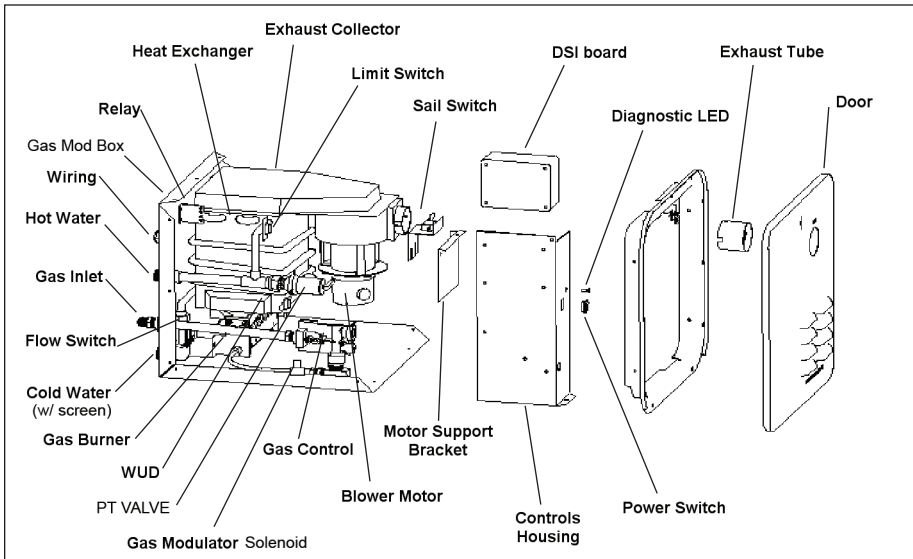

Figure 9 - EXPLODED VIEW OF MODEL GSWH-1M AND MAJOR COMPONENTS IDENTIFICATION
- 1. Figure 9:** Shows an exploded view of the GSWH-1M water heater with identification labels for all components.